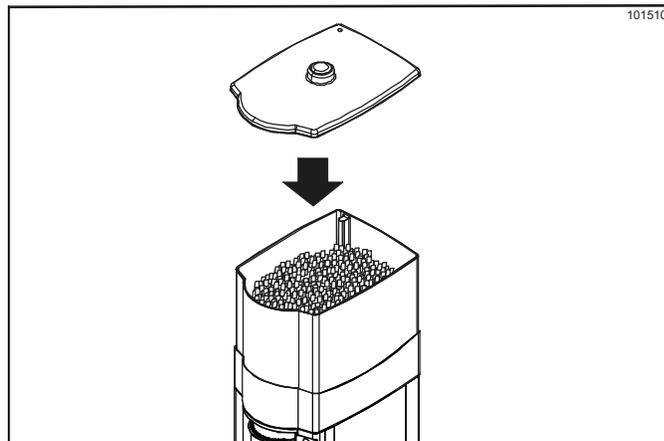

Figure 6-2
5. Install the ice hopper cover. (See Figure 6-2.)